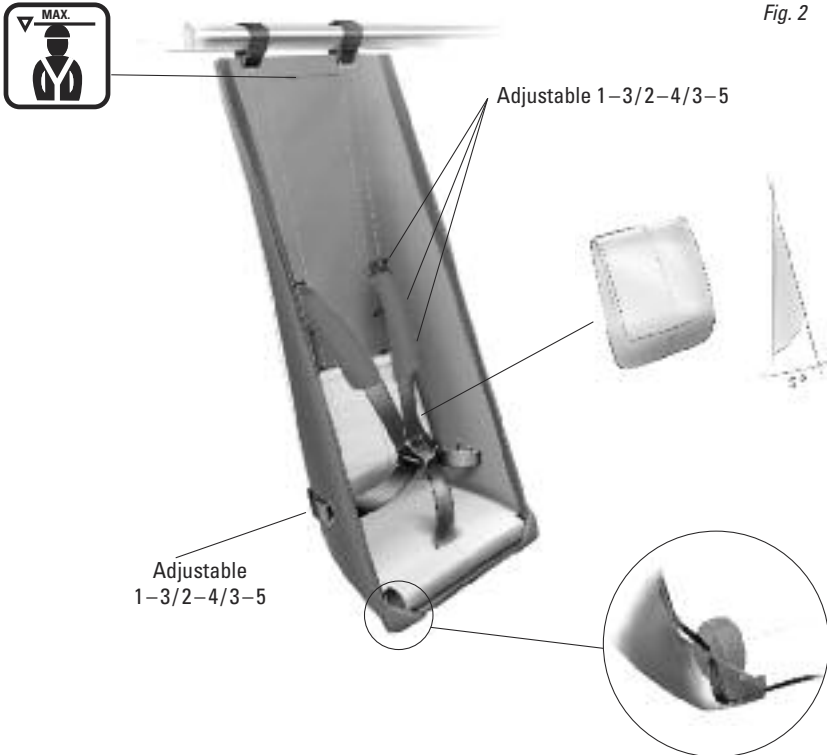

Fig. 2
- Children being pulled must have enough head clearance (Recommendation: minimum 5 cm) to ensure proper roll-over protection. The heads of the children must not project with the safety helmet beyond the marking in the trailer (Fig. 2).
- 5** Then fasten the seat belts at the top (Fig. detail) around the rollbar and lash them tightly. Take care to ensure that the belts are tightly fastened. Take care to ensure that the settings of the five-point belts are adjusted suitably corresponding to the age of the child (Fig. 2, page 43)